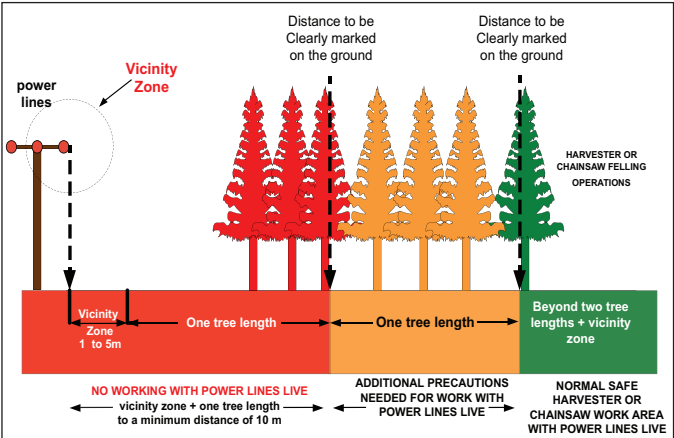

Figure 2: Red/Amber Zones (Uniform height crop)
- 40 These zones are illustrated in *Figures 2, 3 and 4* and defined as: